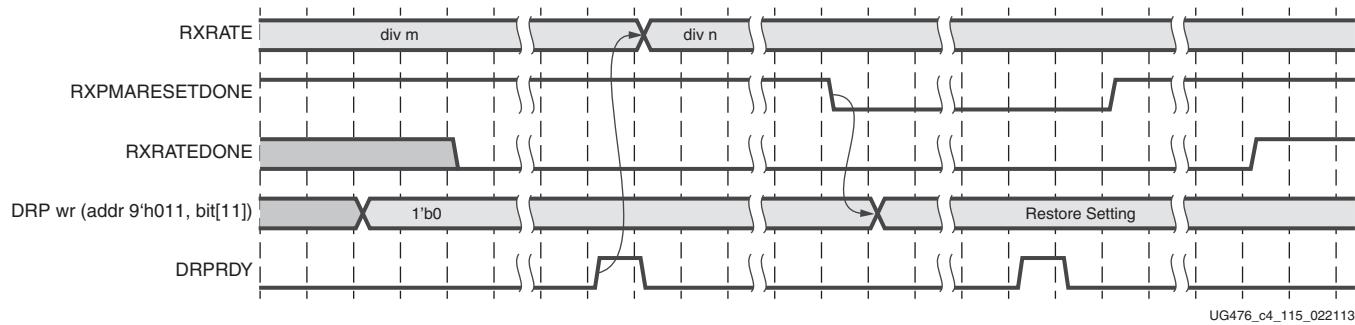

Figure 4-24: RXRATE Change Example
When users want to change the divider D setting via RXRATE, the steps in Figure 4-24 should be performed if the GTH transceiver is changing into a configuration as follows:
Notes relevant to Figure 4-24:
2. The sequence of events in Figure 4-24 is not drawn to scale.